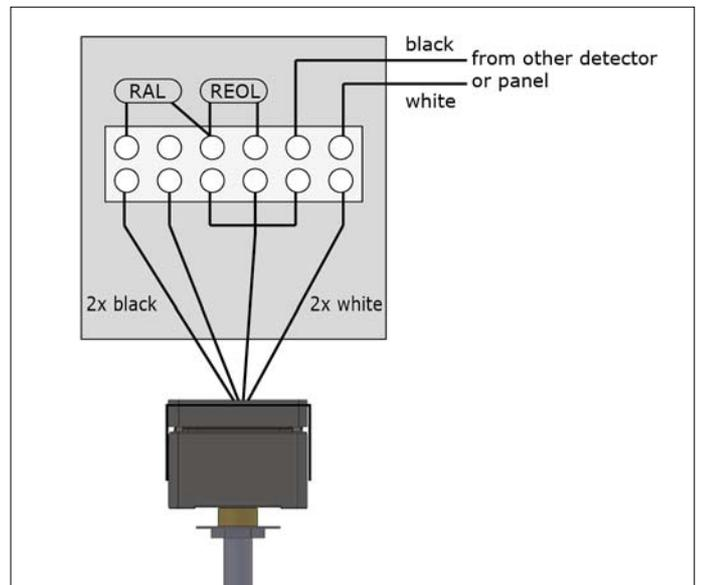

Fig. 7.3: Heat sensor with EOL resistor (REOL)
The last detector that is wired to the fire detection panel ShieldControl must be fitted with an EOL resistor according to Fig. 7.3. The EOL resistor of the heat detector is supplied with the fire detection panel and can be found in Zone 2 of the relevant terminal.
- Take the EOL resistor from Zone 2 of the ShieldControl panel and place it in the last heat detector according to Fig. 7.3.